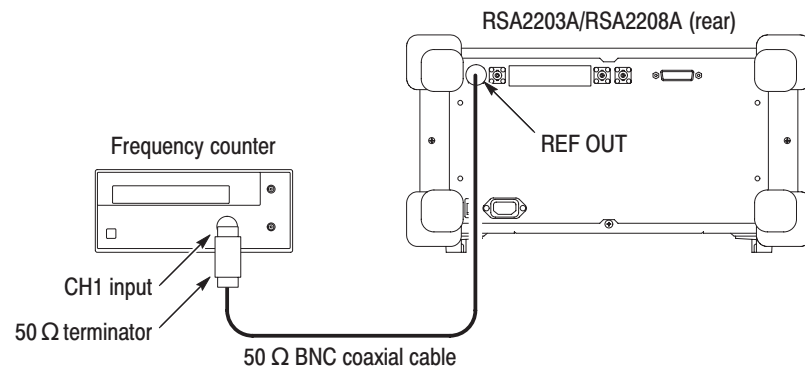

Figure 4–7: Initial test hookup
- b. Connect the N–N cable to the signal generator (Item 2) output. See Figure 4–6 on page 4–12.
- a. *Hook up the frequency counter:* Connect **REF OUT** on the rear panel of the analyzer through a 50 Ω precision coaxial cable and a 50 Ω precision terminator to Channel 1 of the counter. See Figure 4–7.
- a. *Hook up the test equipment:* Connect the signal generator output through a 50 Ω N-N coaxial cable to the power sensor input. See Figure 4–10 on page 4–23.
- a. *Hook up the instruments:* Connect the signal generator output through a 50 Ω N-N coaxial cable to the RSA2203A/RSA2208A **INPUT**. See Figure 4–11 on page 4–24.